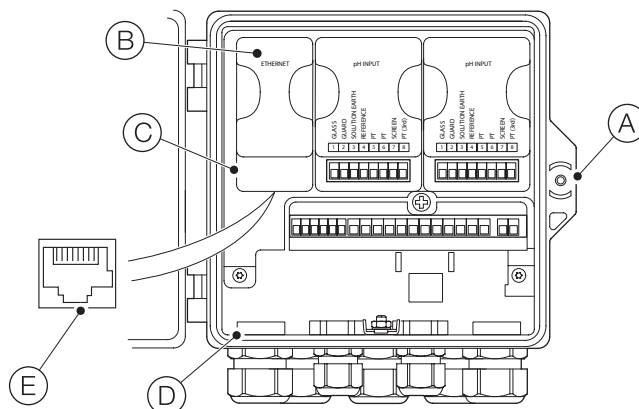

Figure 3 Ethernet module installation
- (A) M20 – mains power
- (B) M16 – sensor 1
- (C) M16 – sensor 2
- (D) M20 – Ethernet cable entry – see Figure 3, page 6
- (E) M20
- (F) M20 – analog outputs
- (G) M20 – relay contacts
Referring to Figure 3: